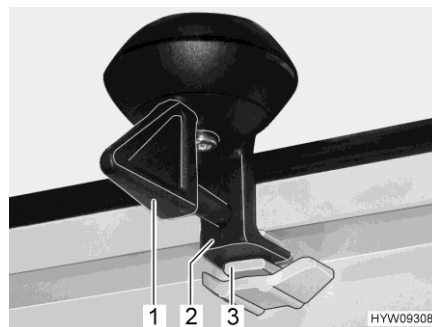

Fig. 30 Lock (ventilation position)
- Turn the lever (Fig. 30,1) one quarter turn. The lock (Fig. 30,2) must slide into the top recess (Fig. 30,3).